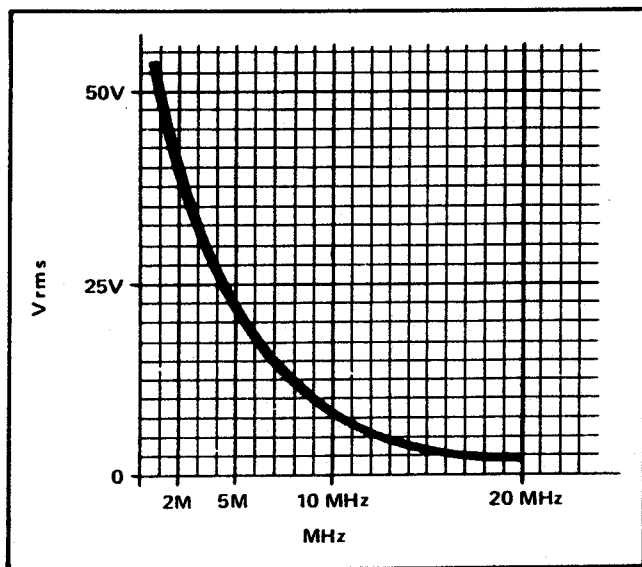

Figure 6-3. Maximum RF Signal Limits (V RMS) at Probe Tip
4. RF signals applied to the 80T-150 probe tip can also cause errors in temperature measurement. Figure 6-3 defines the rf signal limits that can be tolerated without degrading measurement accuracy.